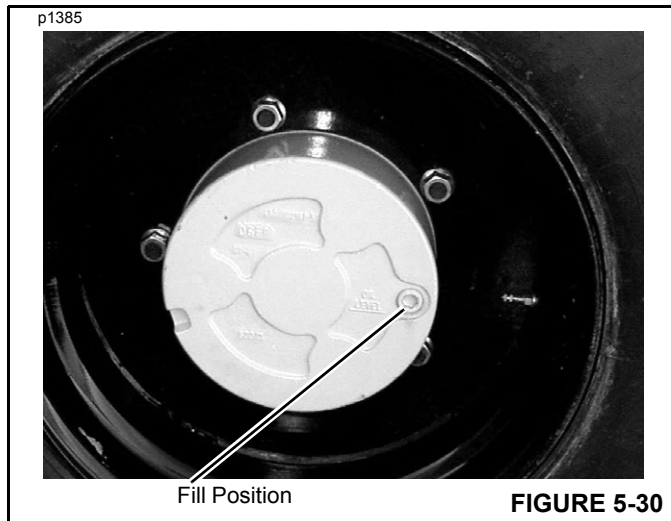

FIGURE 5-30
5. Turn the wheel hub until the drain hole is horizontal (Figure 5-30).